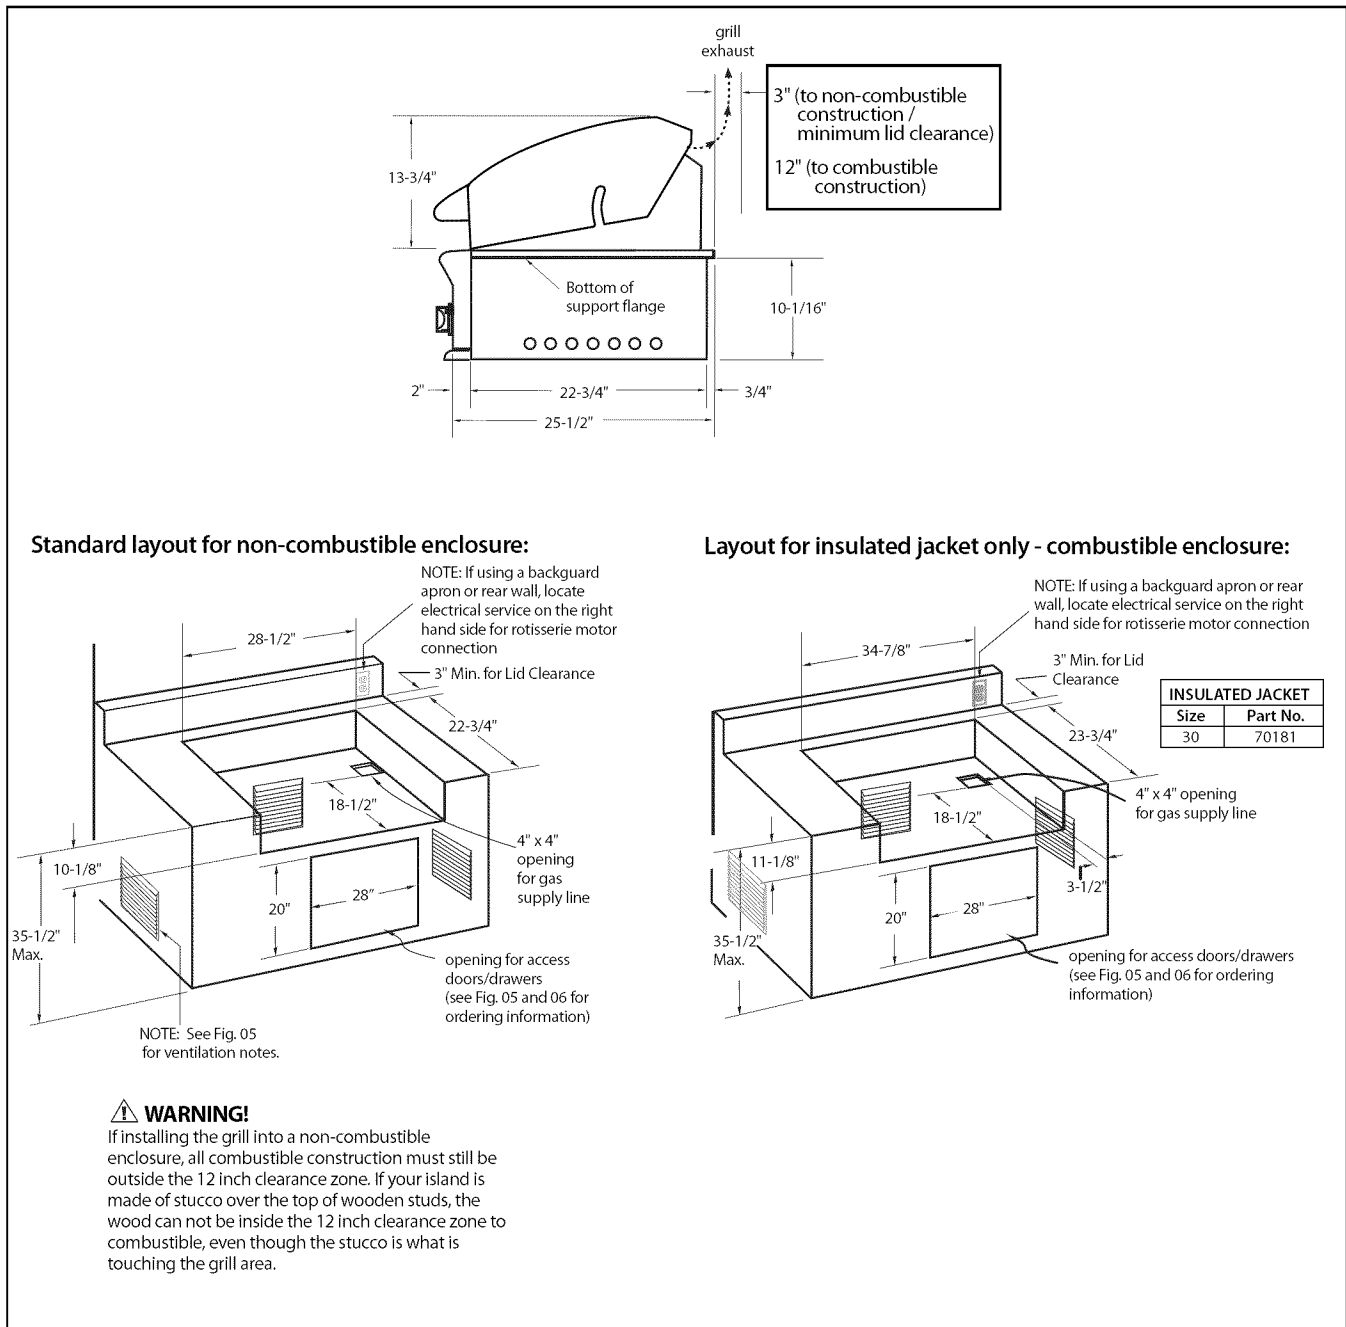

FIG.04
It is required that a minimum of (3)10 sq. inches of ventilation opening be provided for both the left and right sides, as well as the back of enclosure (Fig. 04), in order to safely dissipate unburned gas vapors in the event of a gas supply leak.
The grill is designed for easy placement into built-in masonry enclosures. For non-combustible applications the grill drops into the opening shown in Fig. 04 and hangs from its side flanges. A deck is not required to support it from the bottom. When using the insulated jacket in a combustible enclosure application, see the bottom of Fig. 04. The insulation jacket assembly must be supported from the bottom by a ledge on each side and back or a solid deck.
If the grill is to be placed into a combustible enclosure, an approved insulated jacket is necessary. Insulated jackets are available from your dealer. Use only the DCS insulated jacket which has specifically been designed and tested for this purpose. Review the detail drawing shown (Fig. 04) and take into account the provisions shown for gas line hook-up clearance in the right rear corner. It is required that ventilation holes are provided in the enclosure to eliminate the potential build-up of gas in the event of a gas leak. The supporting ledges or deck must be level and flat and strong enough to support the grill and insulated jacket. The counter should also be level.